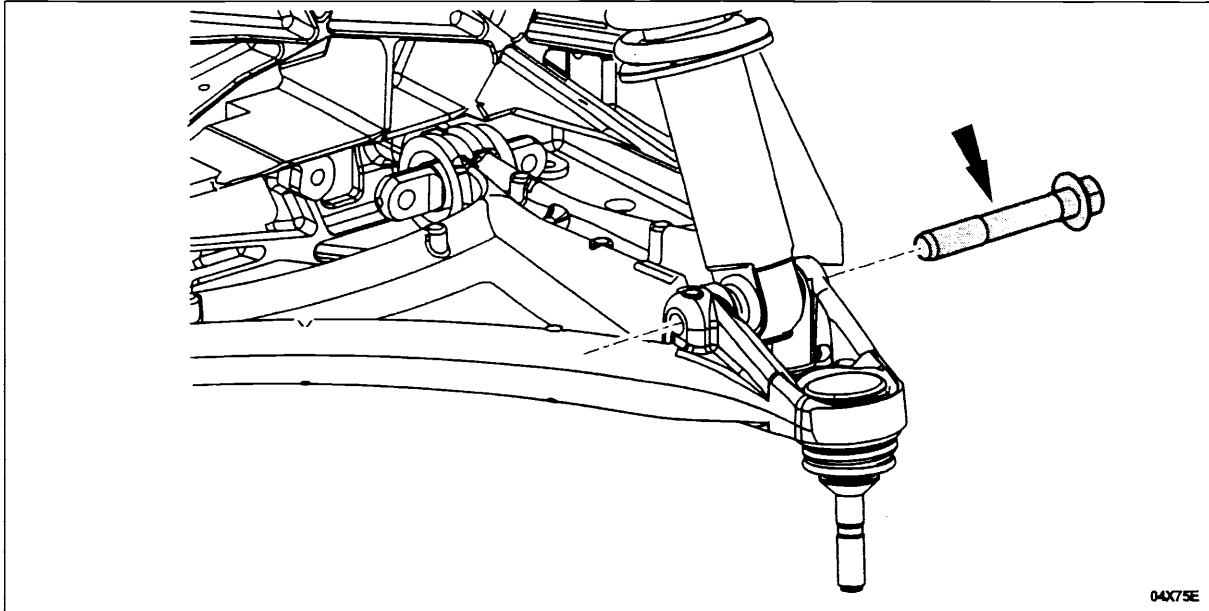

FIGURE 5
4. Remove the lower shock absorber and spring assembly bolt, then remove the shock absorber and spring assembly from the vehicle. See Figure 5.